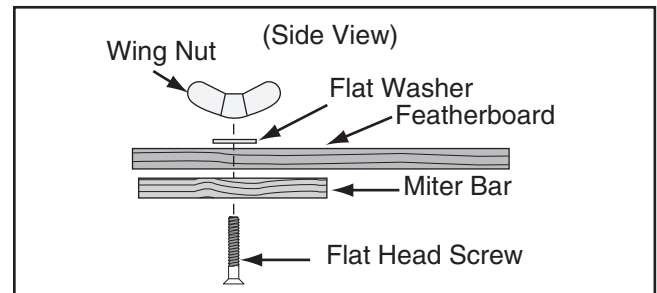

Figure 70. Assembling miter slot featherboard components.
8. Assemble the miter bar and featherboard with a $\frac{1}{4}$ "-20 x flat head screw, flat washer, and a wing nut or a star knob (see **Figure 70**). Congratulations! Your featherboard is complete.
6. Mount a second featherboard to the fence with another clamp (see **Figure 70**), then repeat **Step 5** to ensure it is secure.